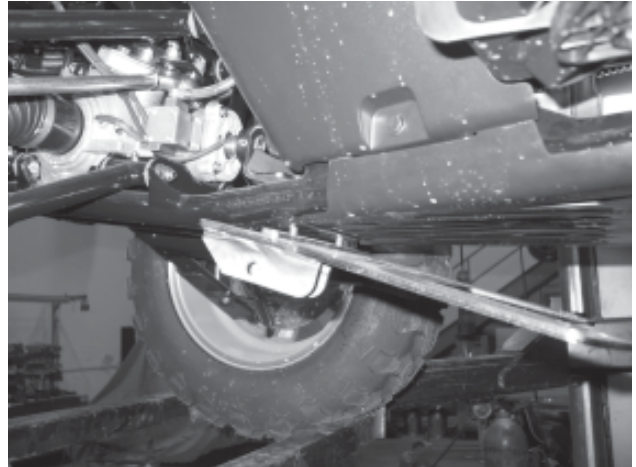

Figure 4
4. Attach plow mount (A1) over the bolts and spacer and loosely attach washers (C2) and lock nuts (C3), as shown in Figure 4.